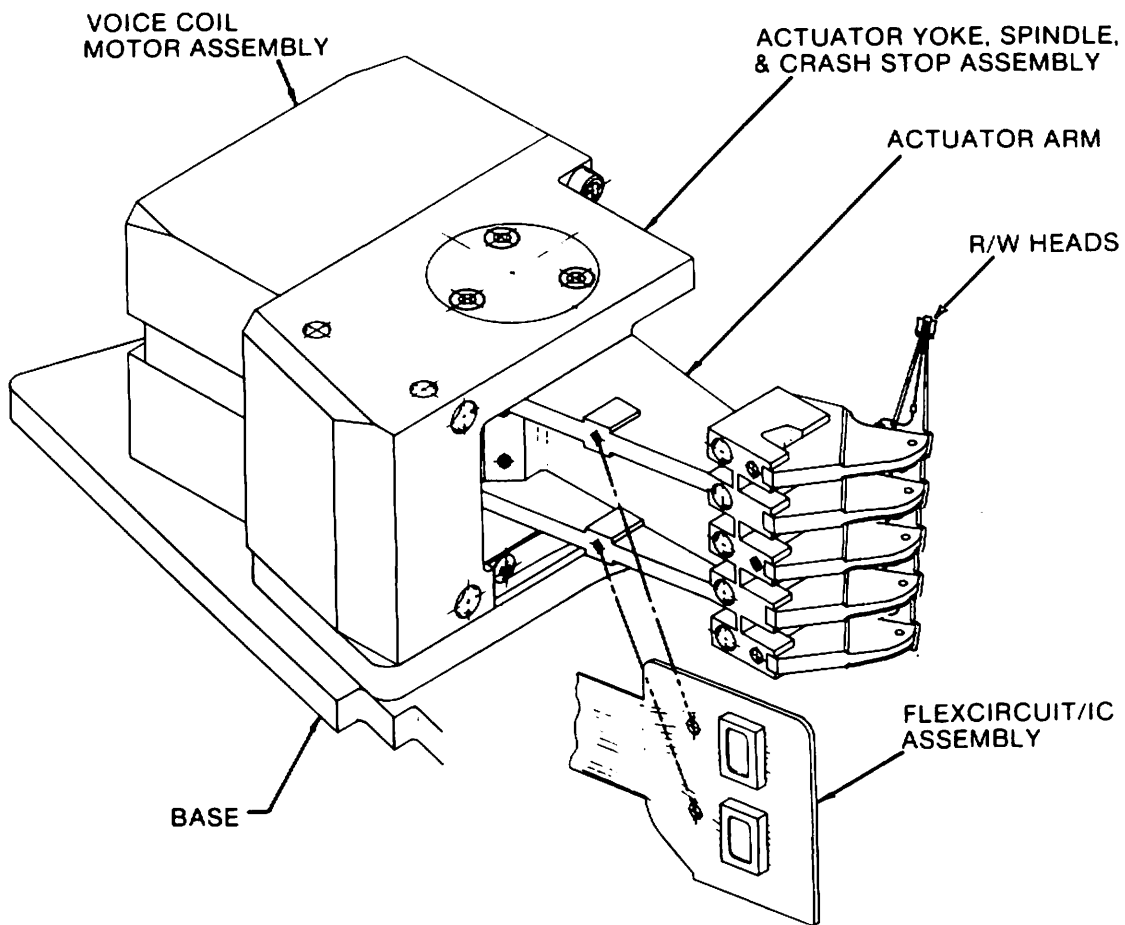

Figure 2-2
2.5 Positioning Mechanism (Figure 2-2)